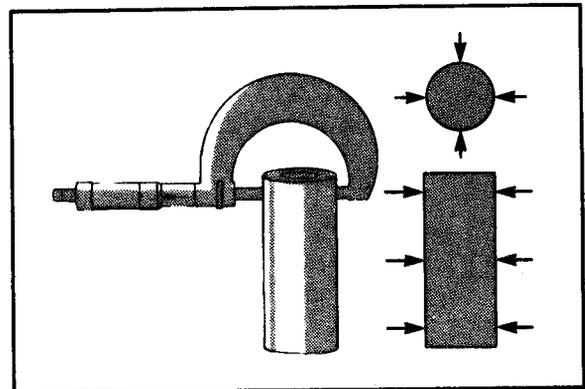

Figure 6-13
9. Inspect piston pin for nicks, gouges and excessive wear (Figure 6-13).